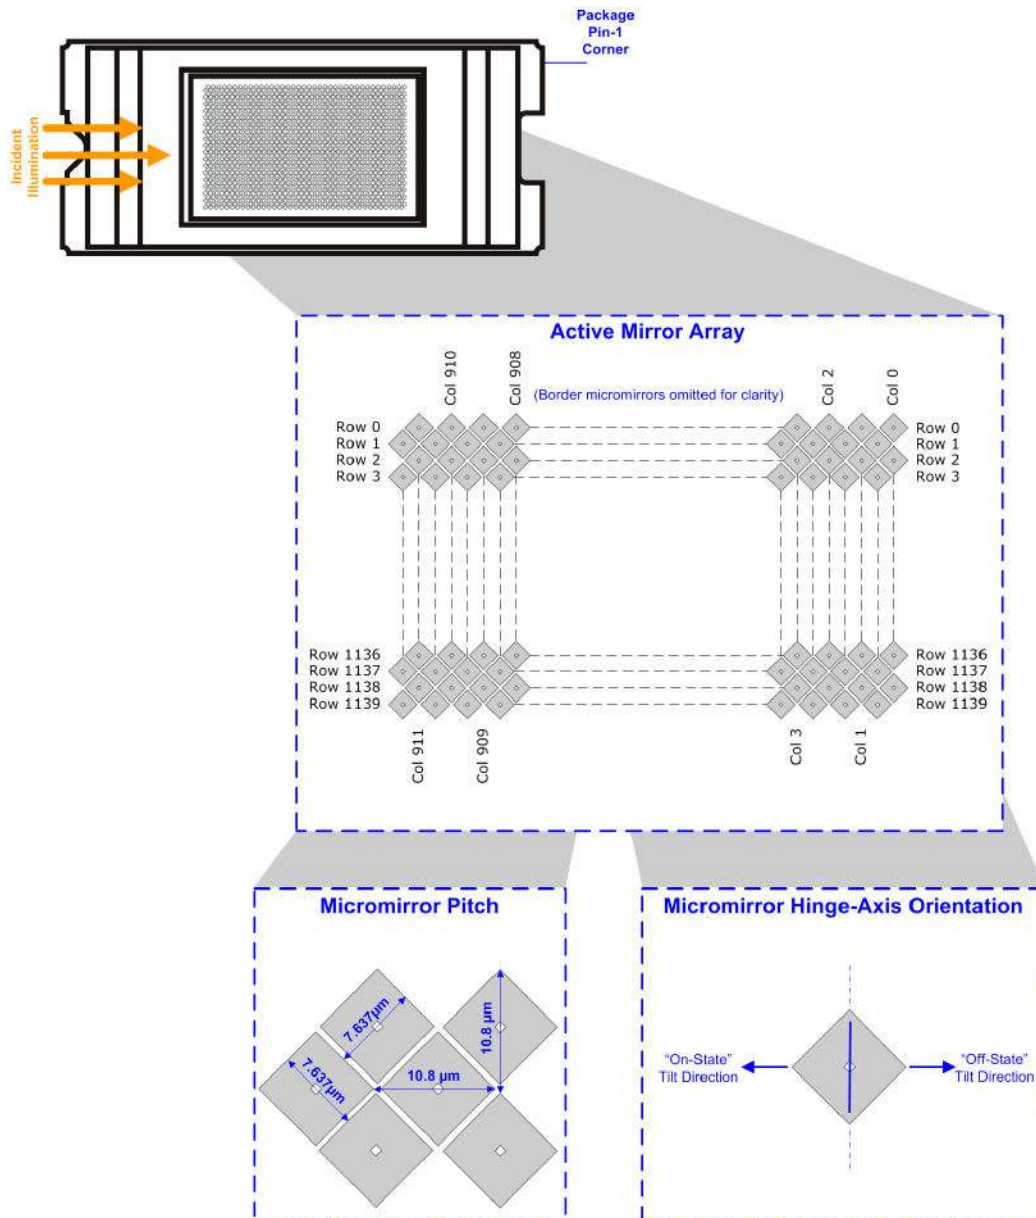
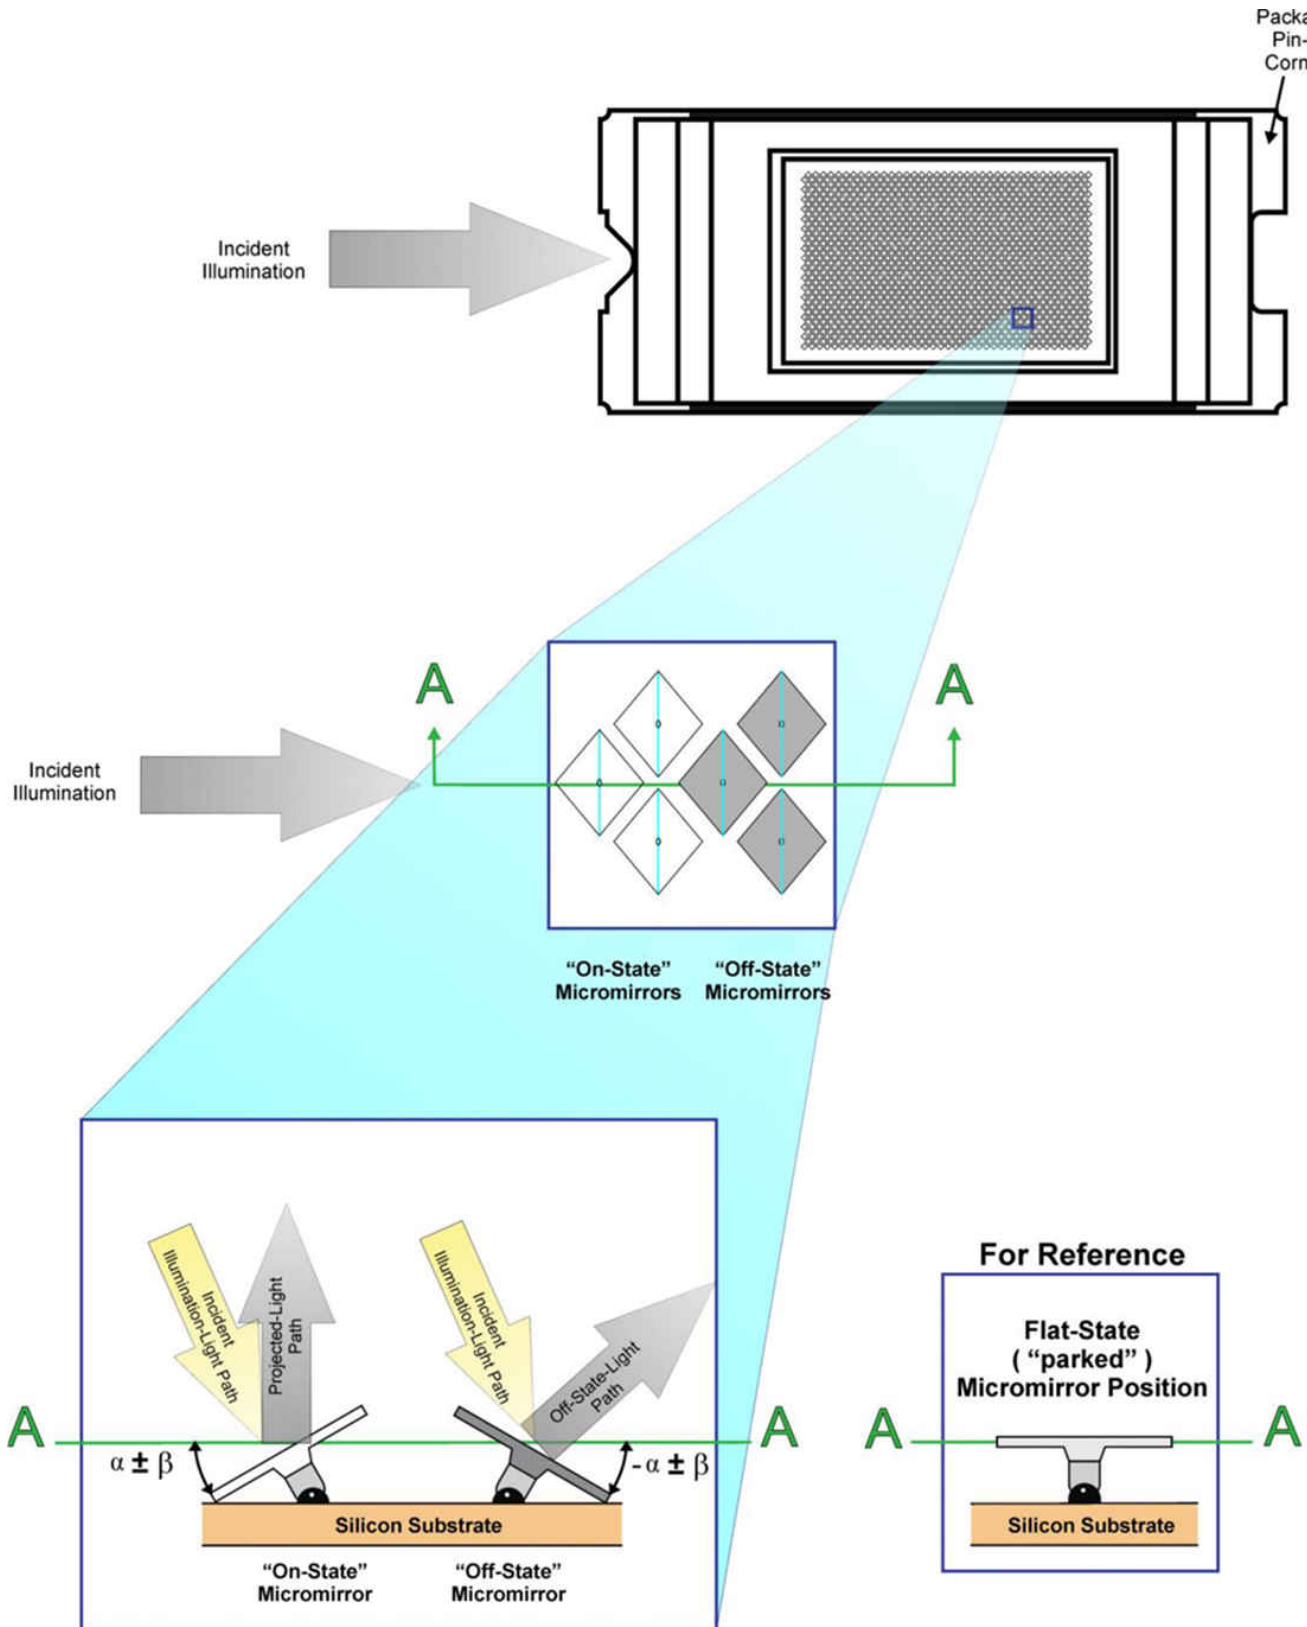

Figure 8-1. Micromirror Array, Pitch, and Hinge-Axis Orientation
Figure 8-2. Micromirror Landed Positions and Light Paths
- (1) The mirrors that form the array border are hard-wired to tilt in the -12° (“Off”) direction once power is applied to the DMD (see Figure 8-1 and Figure 8-2).
- (2) See Figure 8-1.
- (1) Measured relative to the plane formed by the overall micromirror array.
- (2) Micromirror crossover time is primarily a function of the natural response time of the micromirrors.
- (3) *Parking* the micromirror array returns all of the micromirrors to a relatively flat (0°) state (as measured relative to the plane formed by the overall micromirror array).
- (4) When the micromirror array is *parked*, the tilt angle of each individual micromirror is uncontrolled.
- (5) Additional variation exists between the micromirror array and the package datums.
- (6) When the micromirror array is *landed*, the tilt angle of each individual micromirror is dictated by the binary contents of the CMOS memory cell associated with each individual micromirror. A binary value of 1 results in a micromirror *landing* in an nominal angular position of +12°. A binary value of 0 results in a micromirror *landing* in an nominal angular position of -12°.
- (7) Represents the *landed* tilt angle variation relative to the nominal *landed* tilt angle
- (8) Represents the variation that can occur between any two individual micromirrors, located on the same device or located on different devices.
- (9) For some applications, it is critical to account for the micromirror tilt angle variation in the overall system optical design. With some system optical designs, the micromirror tilt angle variation within a device may result in perceivable non-uniformities in the light field reflected from the micromirror array. With some system optical designs, the micromirror tilt angle variation between devices may result in colorimetry variations or system contrast variations.
- (10) See Figure 8-2.
- (11) Performance as measured at the start of life.
- (12) Measured relative to the package datums B and C, shown in the Package Mechanical Data section in Section 13.
- (13) The nominal DMD total optical efficiency results from the following four components:
- (14) The DMD diffraction efficiency and total optical efficiency observed in a specific application depends on numerous application-specific design variables, such as:
Optically, the DLP4500 device consists of 1039680 highly reflective, digitally switchable, micrometer-sized mirrors (micromirrors) organized in a two-dimensional array. The micromirror array consists of 912 micromirror columns by 1140 micromirror rows in diamond pixel configuration (Figure 8-1). Due to the diamond pixel configuration, the columns of each odd row are offset by half a pixel from the columns of the even row.
Each aluminum micromirror is approximately 7.6 microns in size and arranged in row and columns as shown in Figure 8-1. Due to the diamond pixel array of the DMD, the pixel data does not appear on the DMD exactly as it would in an orthogonal pixel arrangement. Pixel arrangement and numbering for the DLP4500 is shown in Figure 8-1.
Each micromirror is switchable between two discrete angular positions: -12° and 12° . The angular positions α and β are measured relative to a 0° flat reference when the mirrors are parked in their inactive state, parallel to the array plane (see Figure 8-2). The parked position is not a latched position. Individual micromirror angular positions are relatively flat, but do vary. The tilt direction is perpendicular to the hinge-axis. The on-state landed position is directed toward the left side of the package (see Figure 8-2).